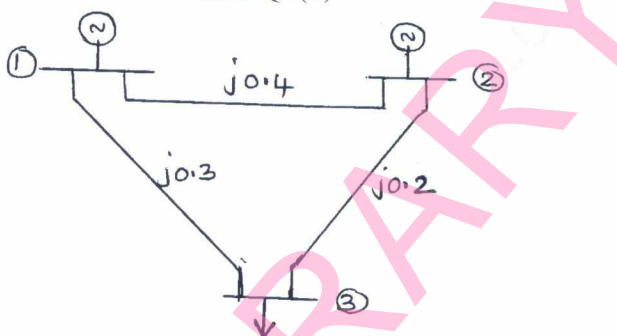

Fig.Q3(b)
- b. Fig. Q3(b) shows a three bus power system using G – S method, determine the bus voltages at the end of first iteration. The values shown are line impedances in p.u Bus data are given in Table Q3(b). (10 Marks)